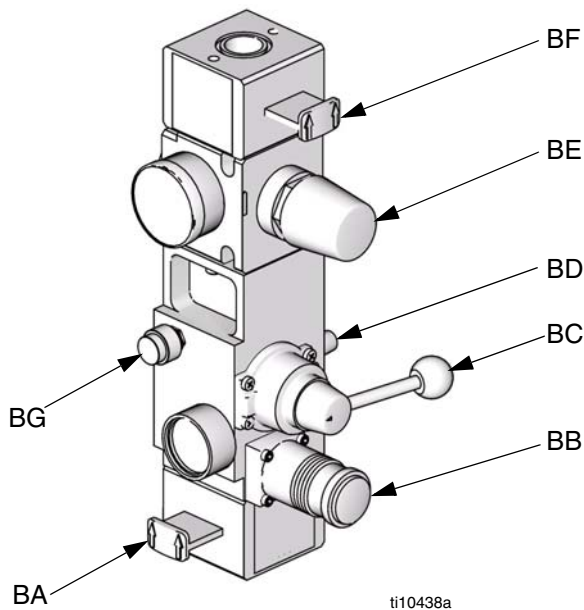

FIG. 2. Integrated Air Control Module
| G | Integrated Air Controls (see FIG. 2) | U | Air Line Drain Valve (not supplied) |
2. **Integrated Air Controls:** See FIG. 2, page 10. Close the air motor slider valve (BF) and the main air slider valve (BA).